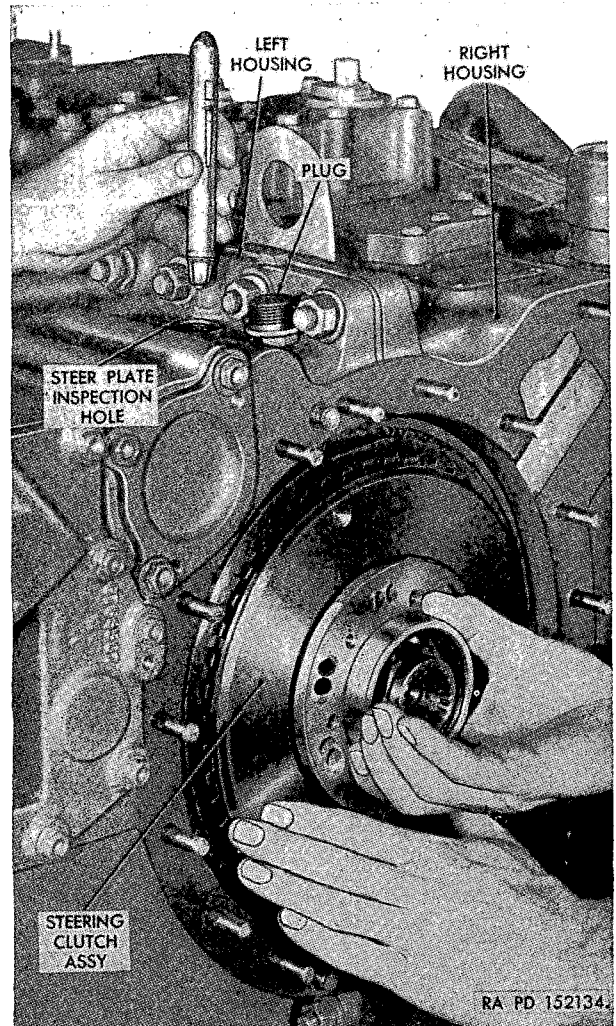

Figure 395. Inspecting right steering clutch installation.
- (1) Remove the steer-plate-inspection-hole plug. Install the steering clutch assembly, rotating it slightly. Look into the steer-plate-inspection hole to see that the disks of the right steering clutch align with the right steering shaft (fig. 395).